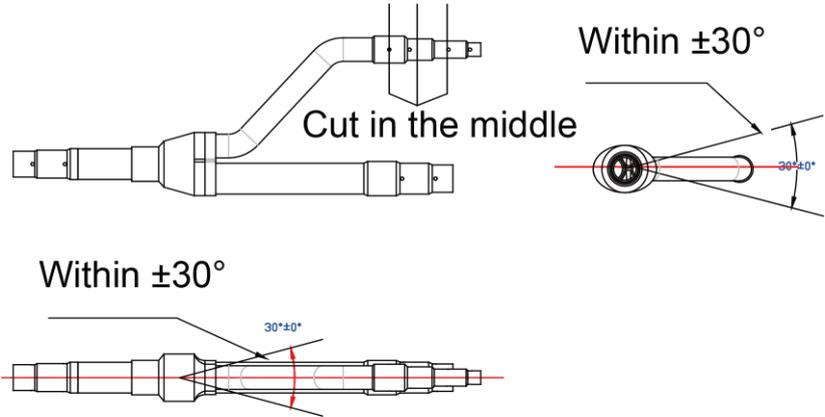

Fig.20
- (2) Y-type branch has several pipe sections with different dimension, which facilitates to match with various copper pipes. Use pipe cutter to cut in the middle of the pipe section that is of proper dimension and remove burrs as well. See Fig.20.
(3) Y-type branch must be installed vertically or horizontally.